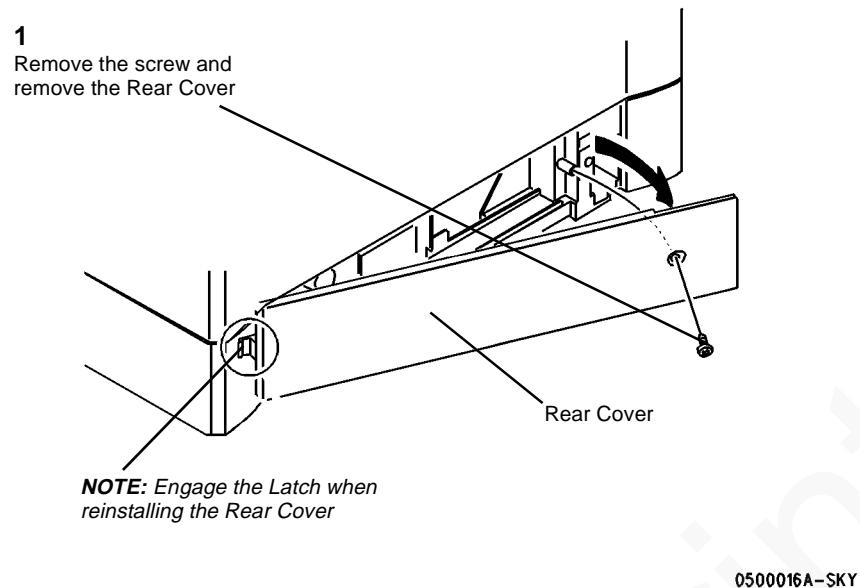

Figure 1 Removing the Rear Cover
- (Figure 1): Remove the Rear Cover.